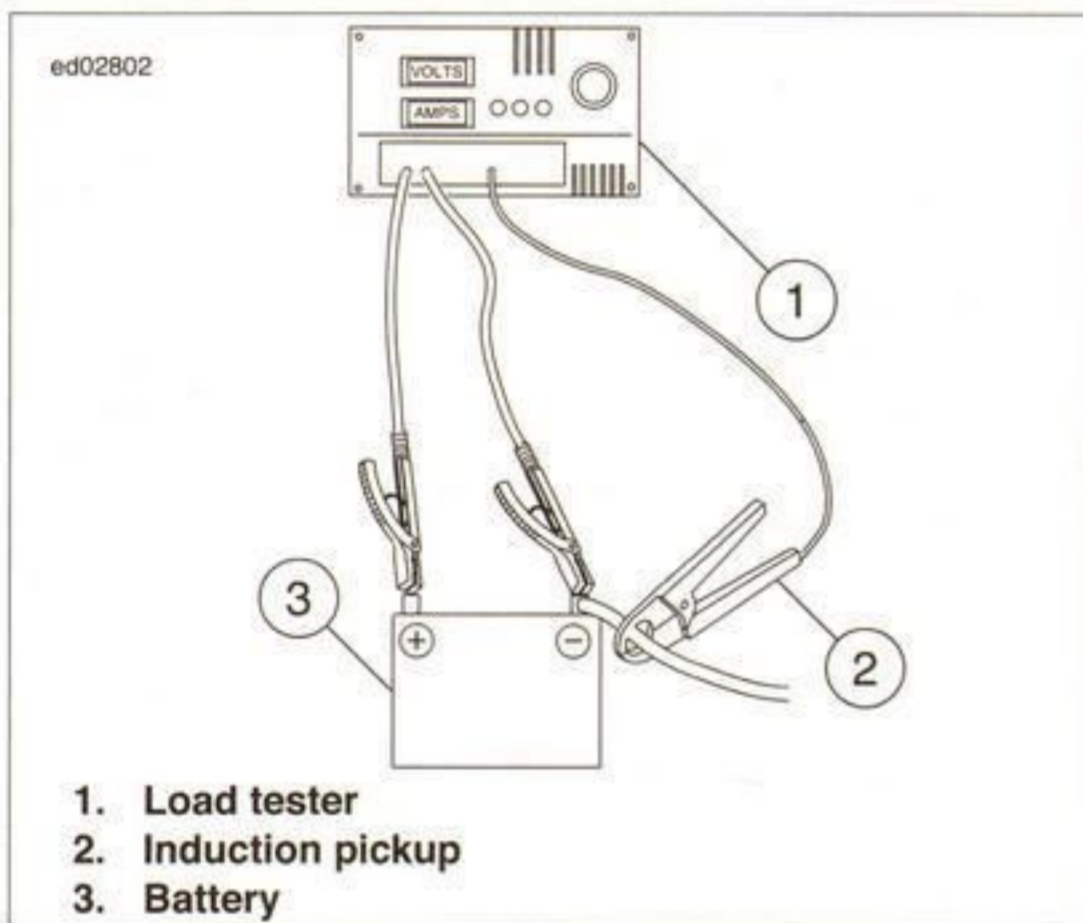

Figure 3-14. Check Current Draw (Ignition Switch On)
1. See Figure 3-14 to check for this condition, and place load tester induction pickup or current probe pickup over battery negative cable.